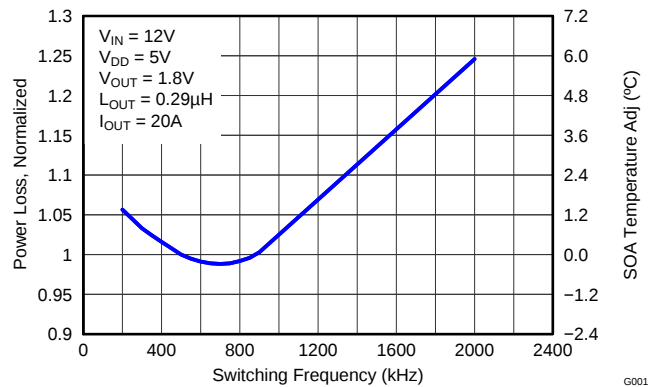

Figure 8. Normalized Power Loss vs Frequency
- Normalized Power Loss for switching frequency  $\approx 0.99$  (Figure 8)
- SOA adjustment for switching frequency  $\approx -0.2^{\circ}C$  (Figure 8)